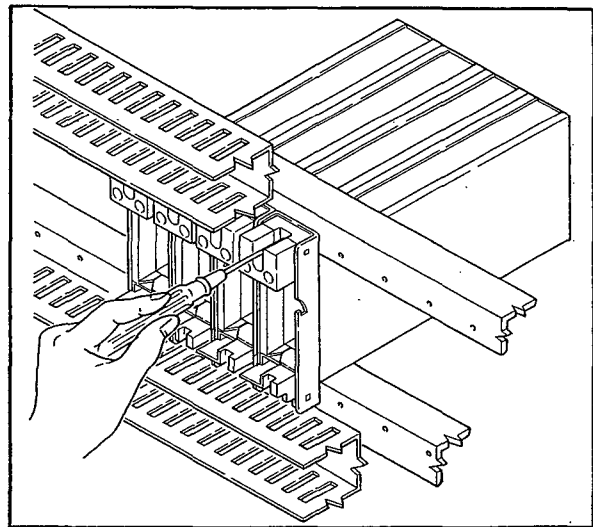

Figure 3-3. Installing the Rack Case.
- (1) Insert the rack case into the rack with the air connections above. Match the two mounting holes (upper and lower portions of the case) to the rack mounting holes on the support angle. Secure the case with setscrews of 5 mm \times 0.8 (M5 \times 0.8). See Figure 3-3.